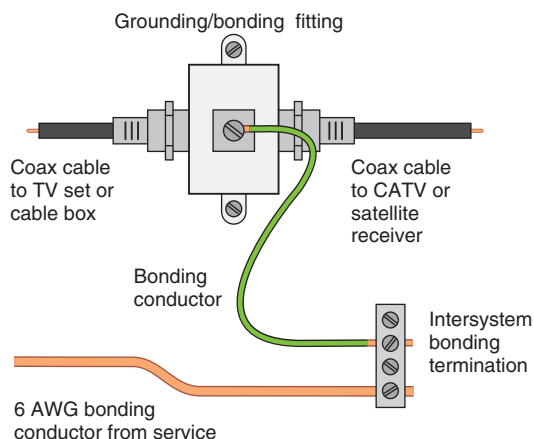

FIGURE 25-13 Typical connection for the required grounding of the metal shield on coaxial cable to the intersystem bonding termination.
- c. The bonding or grounding electrode conductor need not be insulated. It must be securely fastened in place, may be attached directly to a surface without the need for insulating supports, shall be protected from physical damage or be large enough to compensate for lack of protection, and shall be run in as straight a line as is practicable, 810.21(B), (C), (D), and (E).
- d. In buildings with an intersystem bonding termination, the bonding conductor shall be connected to the intersystem bonding termination. See Figure 25-13.